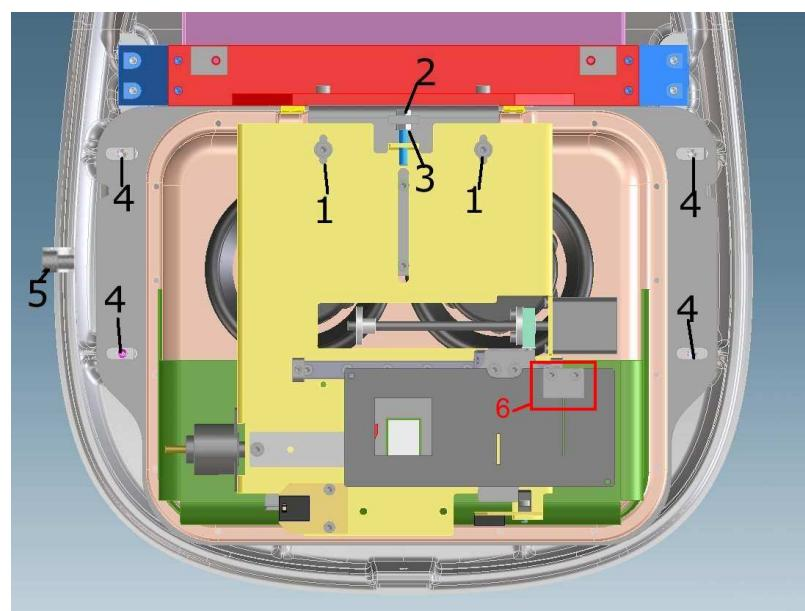

Figure 9-8
1. Remove the old collimator and mount the new one using the screws 1, 2 and 3 Figure 9-8.
- In case the reference pins are aligned and centered on the window, but the X-ray beam is not centered, it is necessary to move the tubehead acting on the screws "4" (Figure 9-8).
- In case the reference pins and the X-ray beam are centered in the window but there is a vertical misalignment of the image (left right side), it is necessary to move the primary collimator acting on the screws **1**, **2** and **3** (Figure 9-8).
11. Verify that the irradiated area is well centered in the sensor area. If the irradiated area is not well aligned to the sensor area, regulate the collimator position through its regulation screws 1, 2 and 3 (Figure 9-8).